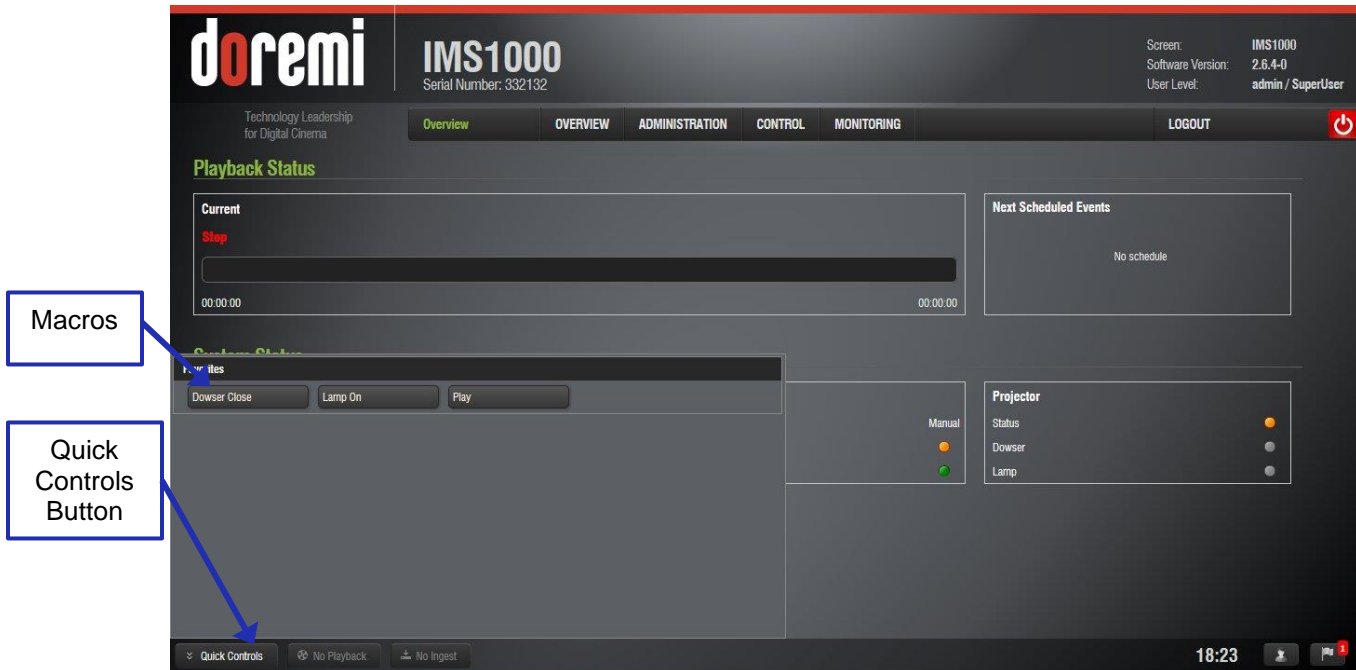

Figure 106: Quick Controls
Once the macros have been added, click on the Quick Controls button and the macros will appear (Figure 106).
- To execute the macro, simply click on the macro (Figure 106).